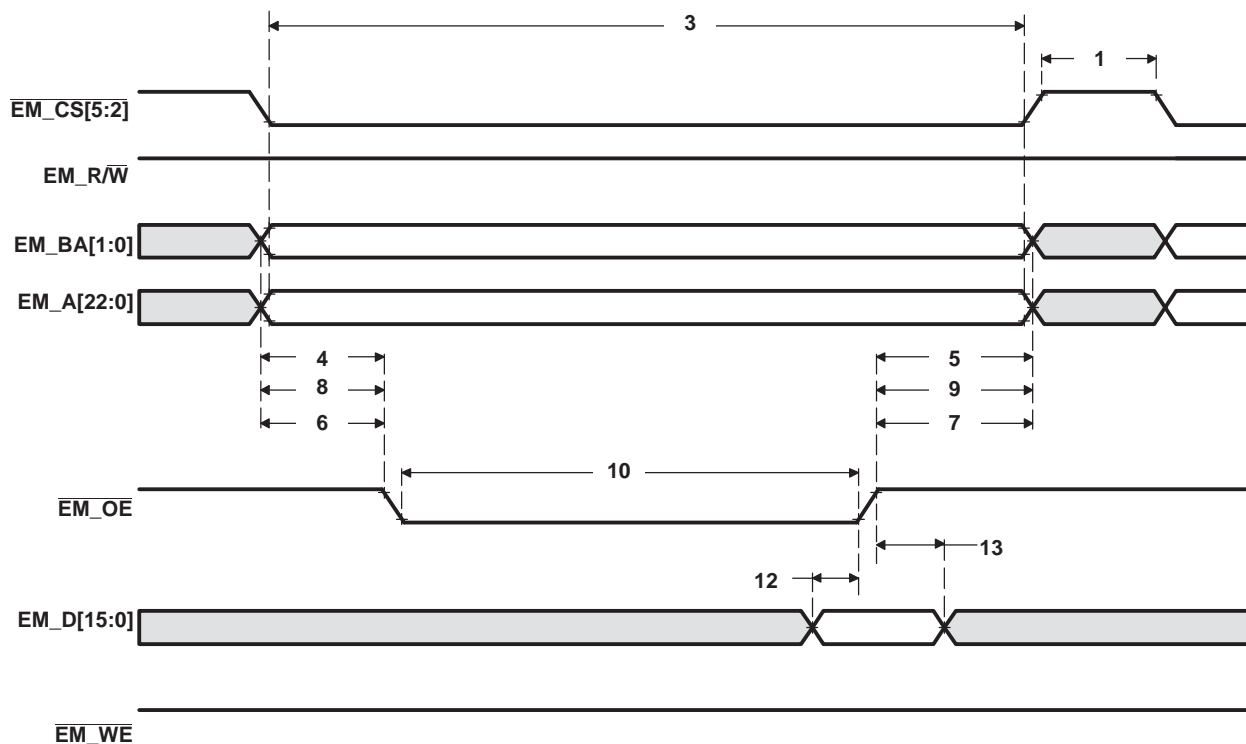
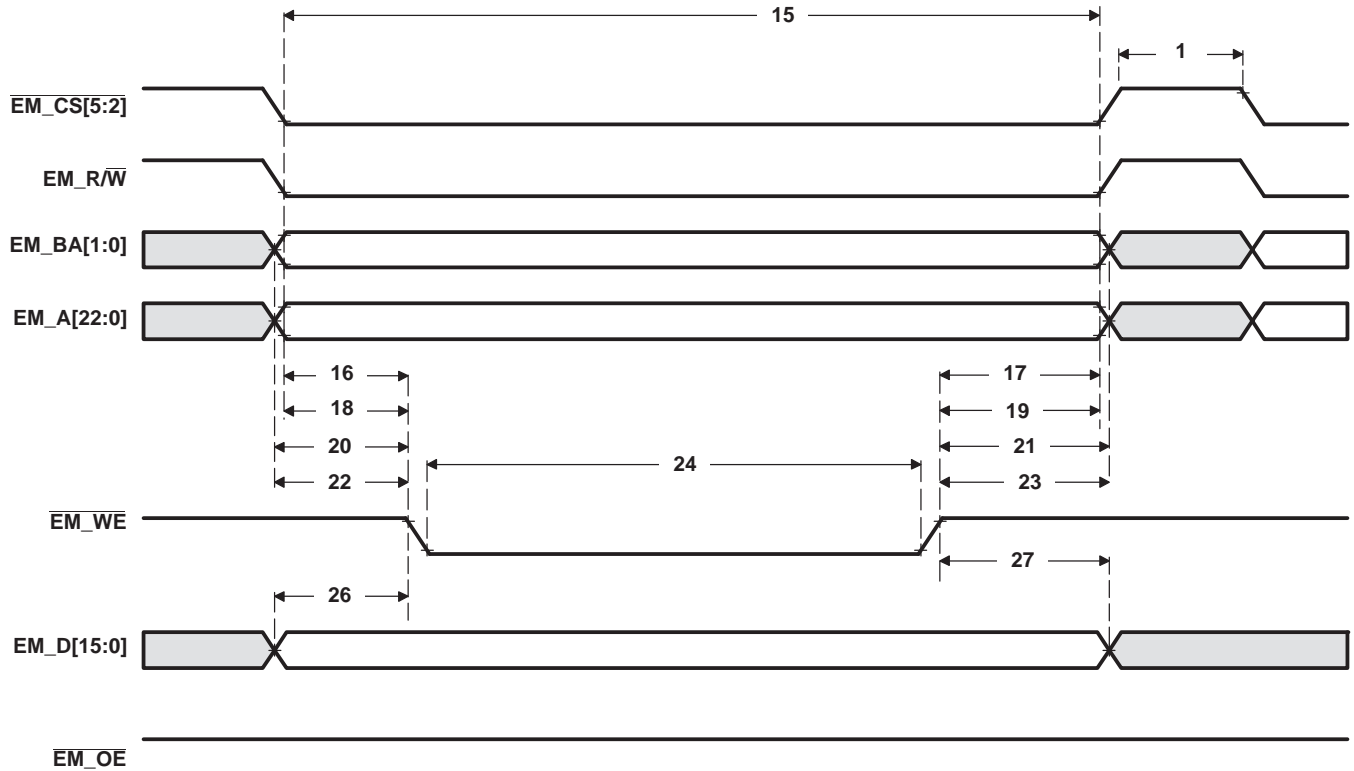

Figure 7-21. Asynchronous Memory Read Timing for EMIF
Figure 7-22. Asynchronous Memory Write Timing for EMIF
(see Figure 7-21 and Figure 7-22)
Table 7-29. Switching Characteristics Over Recommended Operating Conditions for Asynchronous Memory Cycles for EMIFA Module^{(1) (2)} (see Figure 7-21 and Figure 7-22)
(1) RS = Read setup, RST = Read Strobe, RH = Read Hold, WS = Write Setup, WST = Write Strobe, WH = Write Hold, TA = Turn Around, EW = Extend Wait mode, SS = Select Strobe mode. These parameters are programmed via the Asynchronous n Configuration and the Asynchronous Wait Cycle Configuration registers and support the following range of values: TA[0–3], RS[0–15], RST[0–63], RH[0–7], WS[0–15], WST[0–63], WH[0–7], EW[0–1], and MEWC[0–255]. For more information, see the *TMS320DM646x DMSoC Asynchronous External Memory Interface (EMIF) User's Guide* (literature number SPRUEQ7).
(2) E = SYSCLK3 period in ns for EMIFA. For example, when running the DSP CPU at 1 GHz, use E = 4 ns.
Table 7-29. Switching Characteristics Over Recommended Operating Conditions for Asynchronous Memory Cycles for EMIFA Module^{(1) (2)} (see Figure 7-21 and Figure 7-22) (continued)